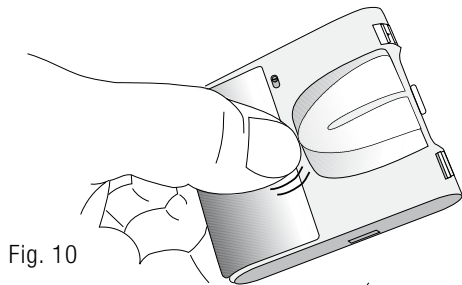

Fig. 10
apollon is equipped with a paediatric lock for the battery compartment. By sliding the paediatric lock (5) to the right – the battery compartment (4) is locked; sliding to the left the battery compartment is unlocked (see fig. 7 and 8). Open the battery compartment by sliding it from the housing as shown in fig. 10 and 11. Insert the batteries polarized correctly.